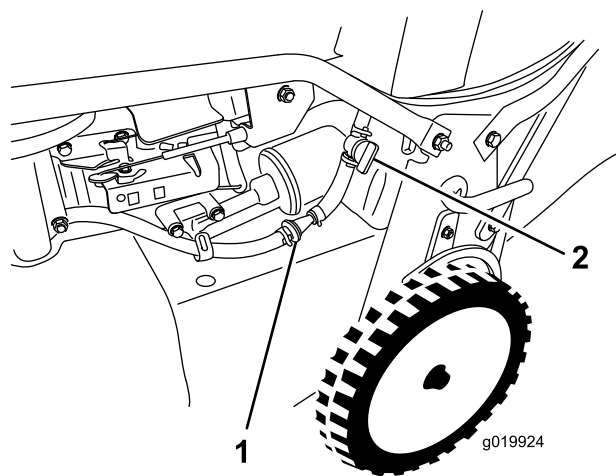

Figure 27
4. Remove the fuel filter (Figure 27) from the fuel line by loosening the tube clamps surrounding the fuel filter.
3. Close the fuel shutoff valve (Figure 27).